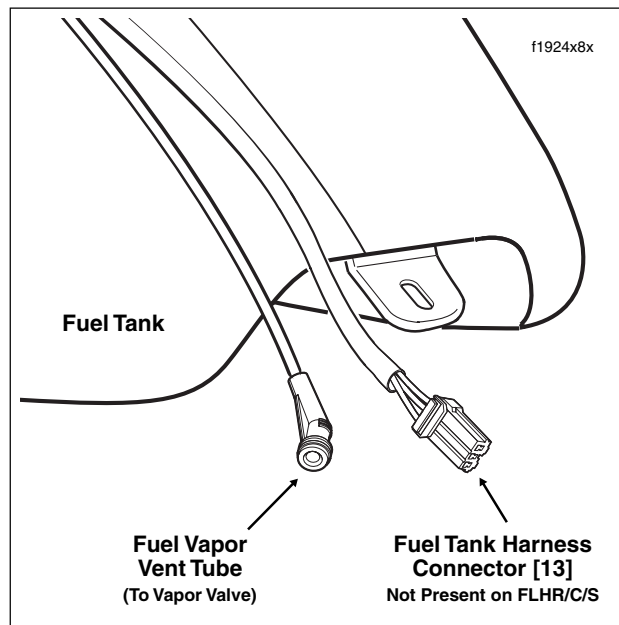

Figure 4-17. Fuel Level Sender Connector (FLHT/C)
5. Disconnect fuel tank harness connector [13], 3-place Multilock, in front of battery. See Figure 4-17.
12. Connect fuel tank harness connector [13], 3-place Multilock, in front of battery. See Figure 4-17.